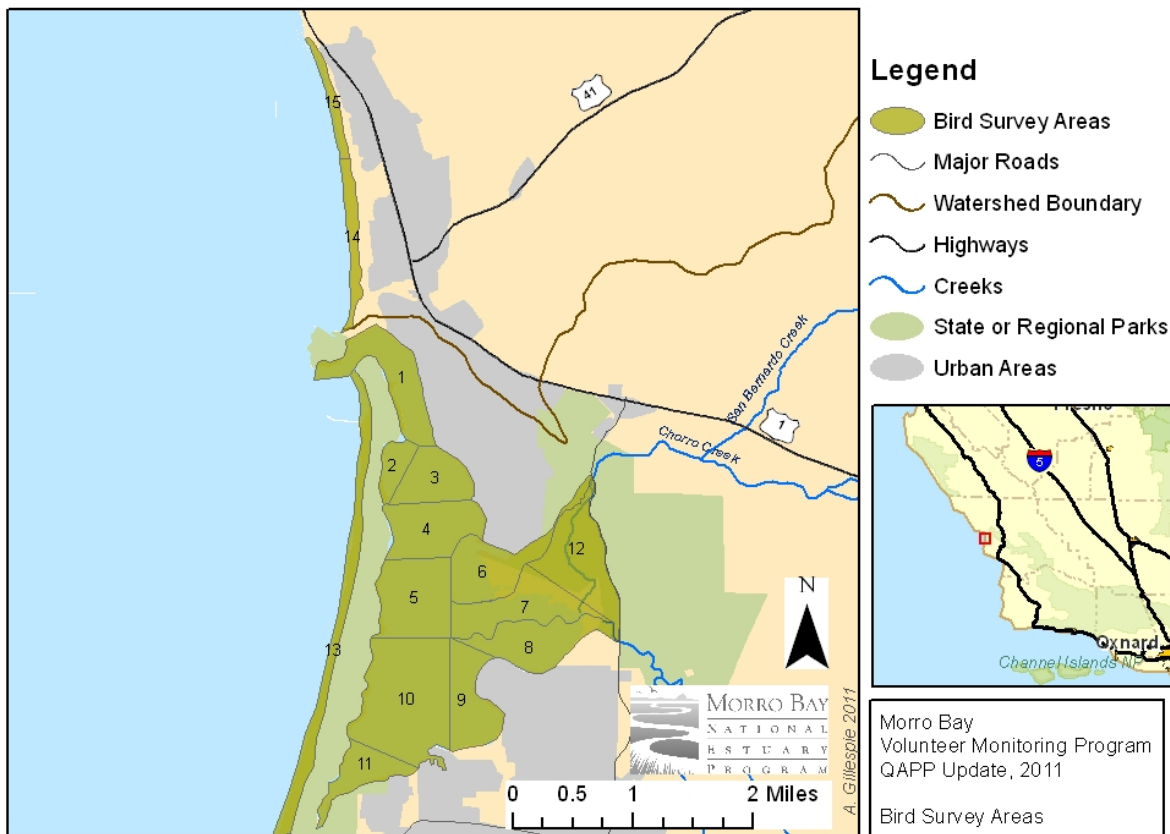

**Figure 6.4.9. MBNEP Eelgrass Monitoring Locations**
- Figure 6.4.9: MBNEP eelgrass monitoring locations